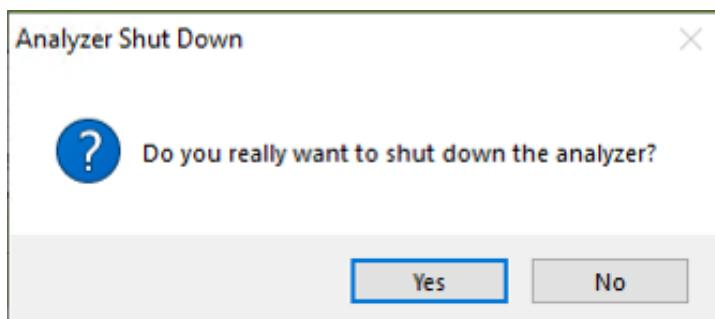

Figure 26: Shutdown Confirmation Pop-Up Dialog
If you have trouble turning off the analyzer software, do not use the Windows Task Manager to kill the process(es). Instead, double-click on the “Stop Instrument” icon in the Diagnostics folder on your desktop and select the default option to stop the software with the drivers running. See Figure 26 below.
3. A window will pop-up (Figure 26) prompting the user to confirm the shutdown. Once confirmed, the analyzer software and hardware will turn off. (Note: If three options are given on an older instrument, choose the “For Shipment” option.)